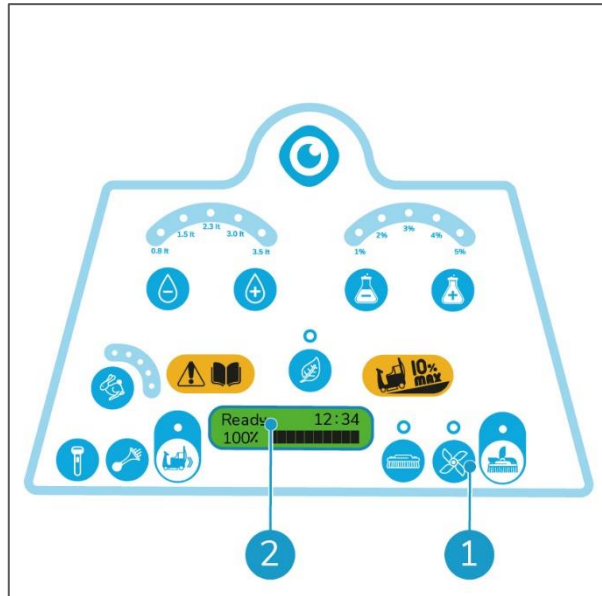

Figure 39
2. Turn the ignition key to the ON position. After a few seconds the text "Ready" appears on the display (Figure 39, pos 2).
3. Press the push button (Figure 39, pos 1). The squeegee moves to its lowest position.
10. After a few seconds the text "Ready" appears on the display (Figure 39, pos 2).